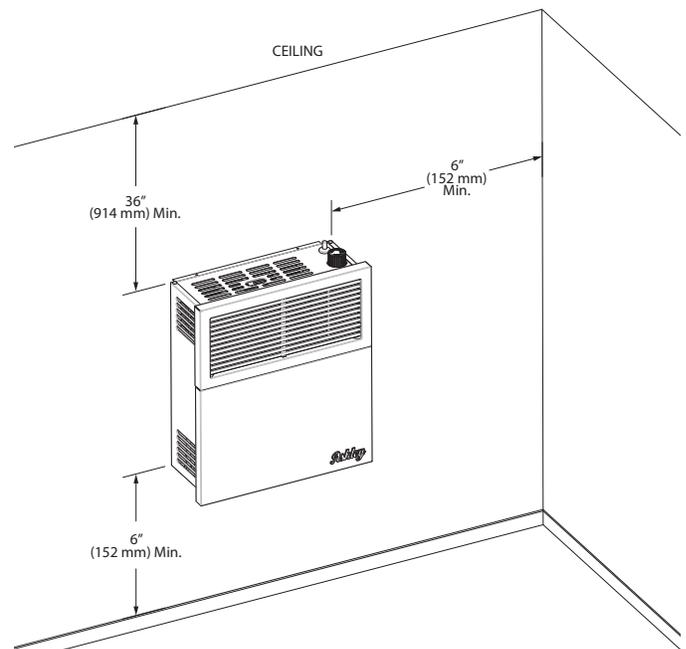
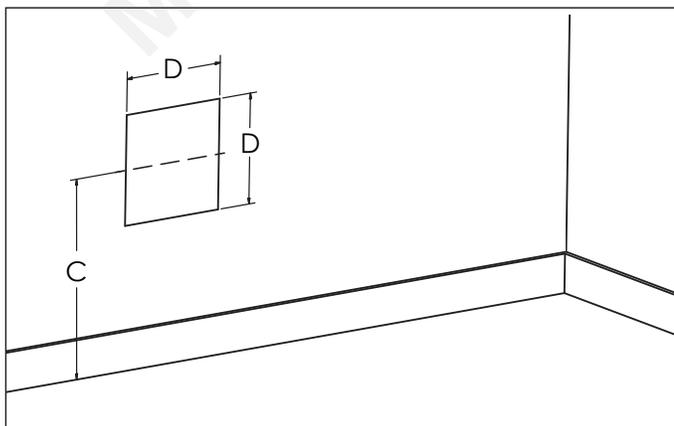

Figure 5
Figure 10
2. Draw the position of the hole for the air-vent intake pipe, taking into account the minimum clearances mentioned in Figure 5. See the dimensions of the square hole "D" and height to the center "C" in Table 1 and Figure 10 for the different models. Height "C" is the minimum recommended.